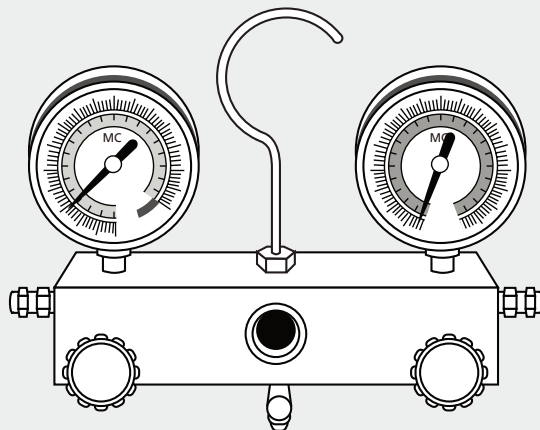

**Fig. 5.10**
4. Using a spanner, grip the body of the valve. Do not grip the nut that seals the service valve. (See **Fig. 5.10**)